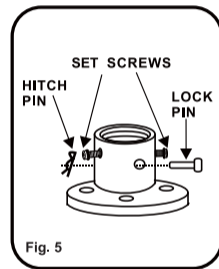

Fig. 5
Step 1. Loosen the two set screws and remove the hitch pin and lock pin from the top coupling of the motor assembly. (Fig. 5)